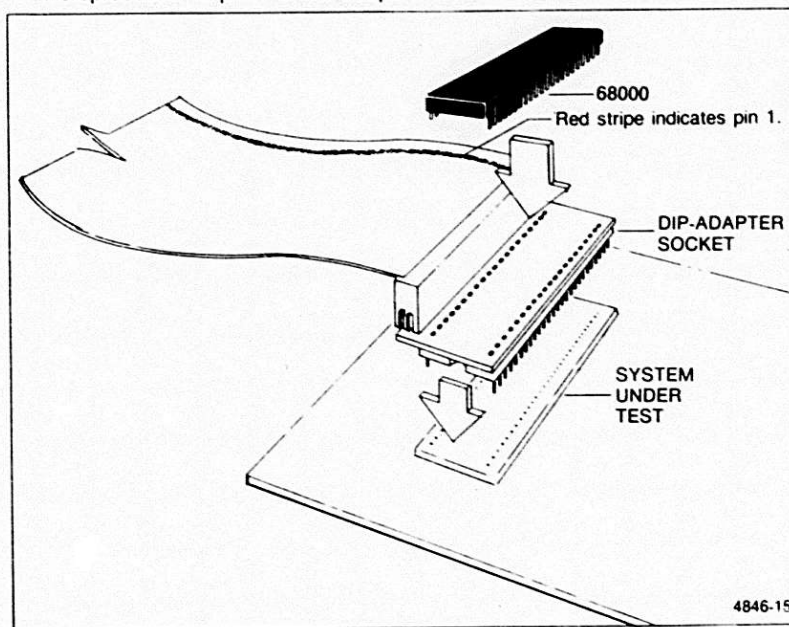

Figure 1a. Connecting Option 02 to the system under test (BO30100 and up).
3. Put the flexible circuit's DIP-adapter into your 68000 system's socket. Refer to Figure 1a. Be sure to orient pin 1 of the adapter to pin 1 of the socket.